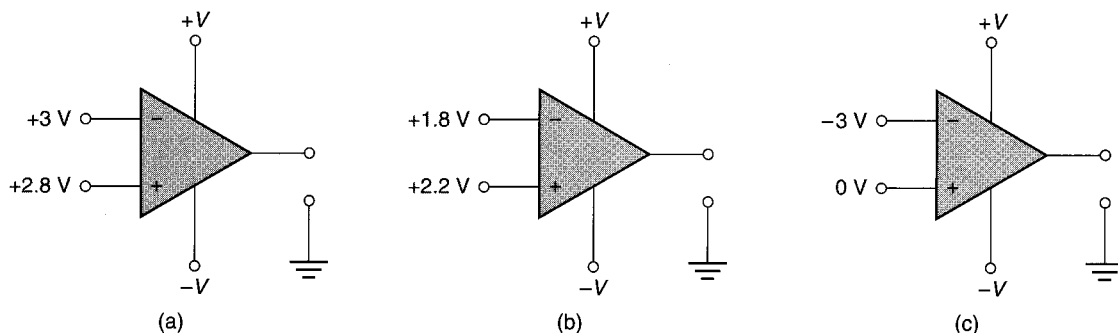

FIGURE 15.51
2. Determine the output polarity for each of the op-amps in Figure 15.51.